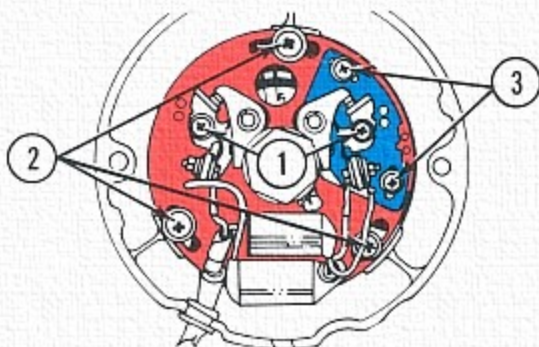

Fig. 62 Contact Point Assembly — Honda Four Cylinder Air-Cooled Engine
1. Check dwell angle or contact point gap. If adjustment is required, loosen contact point locking screws (1) (Fig. 62). Adjust both #1/#4 and #2/#3 contact point gaps to achieve the dwell angle specified in the shop manual, or adjust gap to 0.3 - 0.4mm (0.012 - 0.016 in.). Tighten locking screws. Recheck dwell angle or gap after locking screws are tightened.
2. Check ignition timing for #1/#4 cylinders (cylinders are numbered from left to right as viewed from the rider's position). If adjustment is required, loosen main base plate locking screws (2). Rotate main base plate to achieve correct timing. Tighten locking screws. Recheck dwell angle or gap, and timing, after locking screws are tightened.